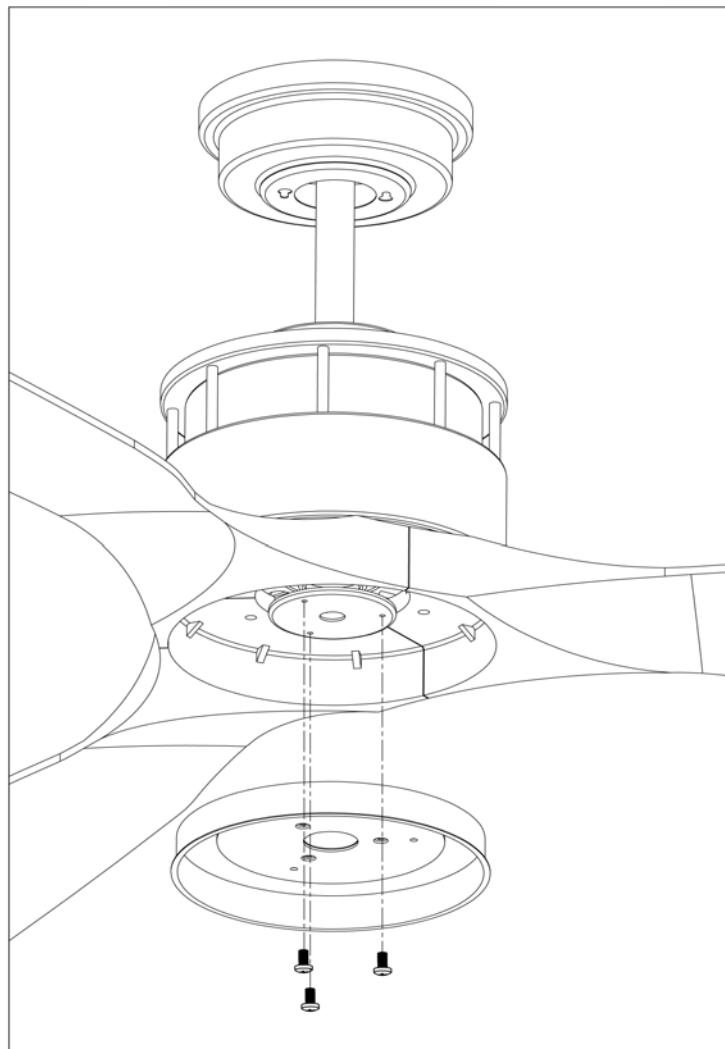

Fig.6
1. Remove 3 screws on the connective plate, align the holes, then lock back the 3 screws removed previously on the light kit .(See Fig.6.)